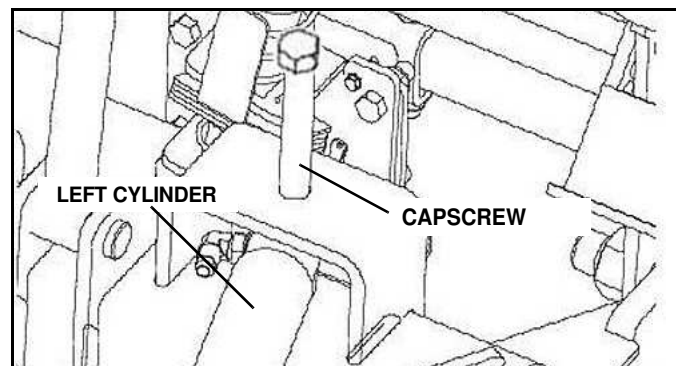

Figure 1-16
- b. Remove the cap screw securing the base of the left (driver's side) cylinder to the A-frame. (See Figure 1-16).